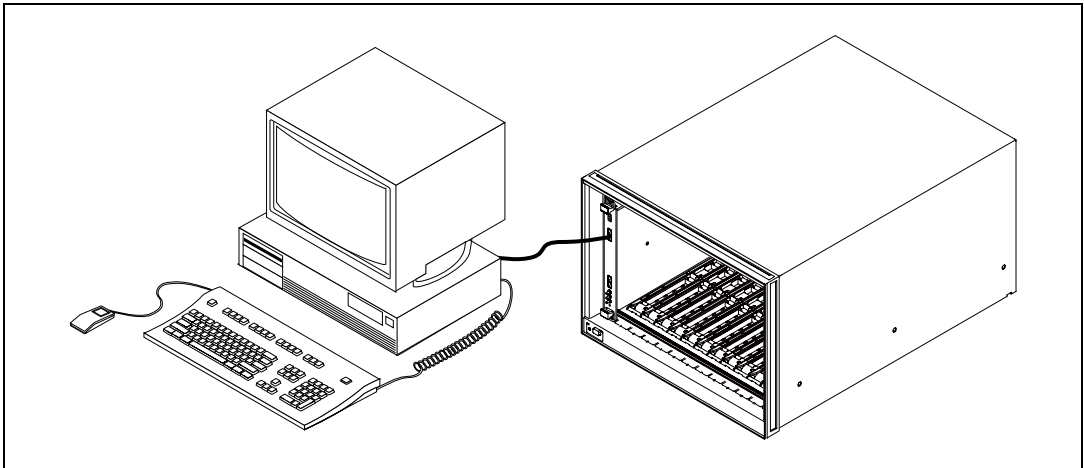

Figure 2-1. Typical VXI System with a VXI-8340 Series Interface Module
Figure 2-1 shows a system with a PCI bus-equipped computer and a VXI chassis with a VXI-8340 series module.
2. Insert the VXI-8340 series into the chassis in Slot 0. See Figure 2-1.
Connect the MXI-3 cable to the PCI-8330 series and the MXI IN port of the VXI-8340 series, as shown in Figure 2-1.